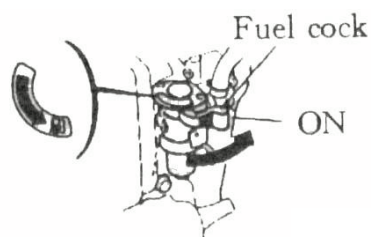

Fig. 5
1. Push the fuel cock to ON position (Fig.5).